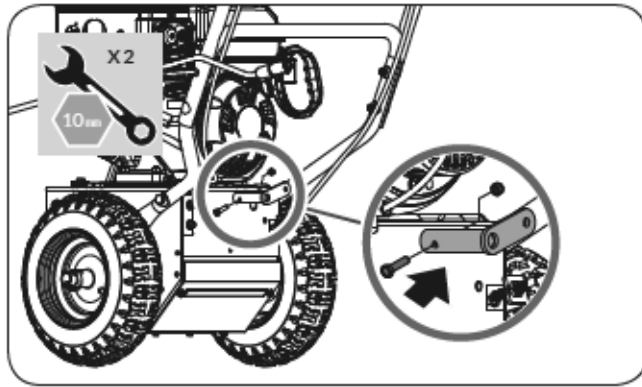

Figure 6a
1. Place the shift arm on shift yoke. Make sure the linkage plate points to the right. Line up the holes in the shift arm and shift yoke. Insert a bolt M6x30 and secure with nut. (See **Figure 6a**)